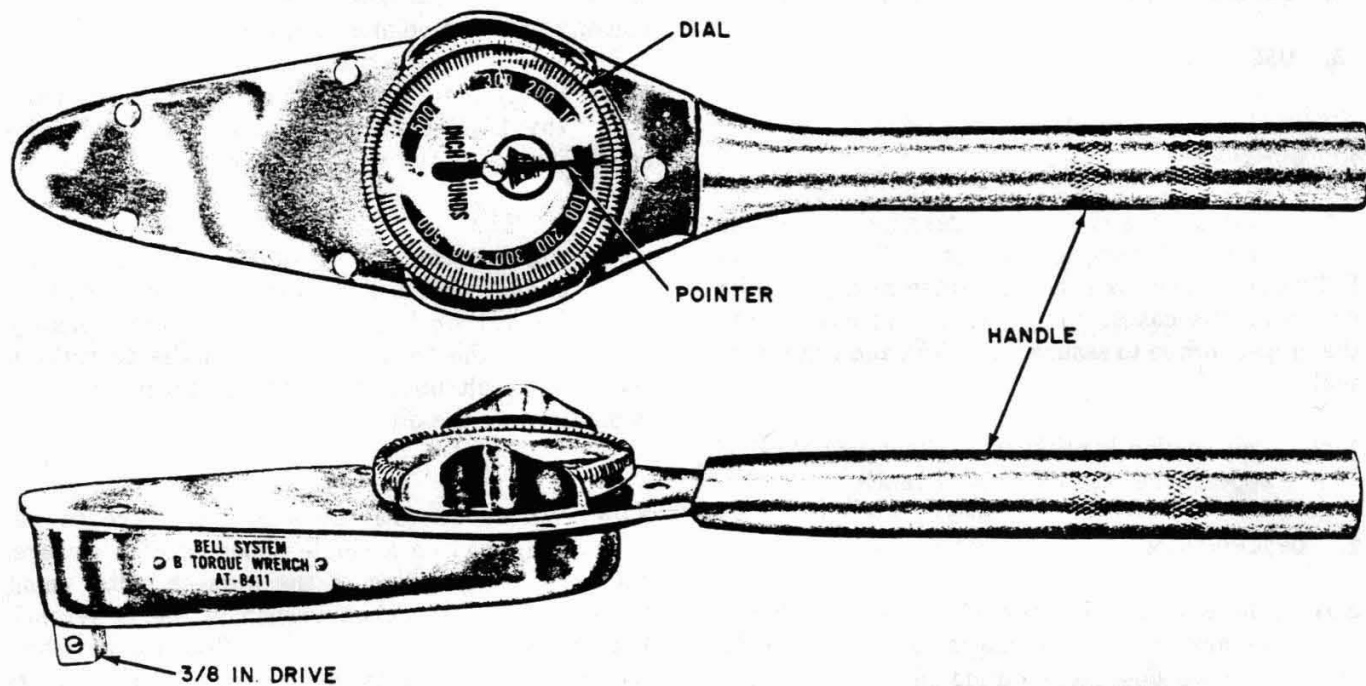

Fig. 1—B Torque Wrench
**2.01** The B Torque Wrench (Fig. 1) has a 3/8-inch square drive and a gauge covering a torque range of 0 to 600 inch-pounds in 10 inch-pound increments in either direction.